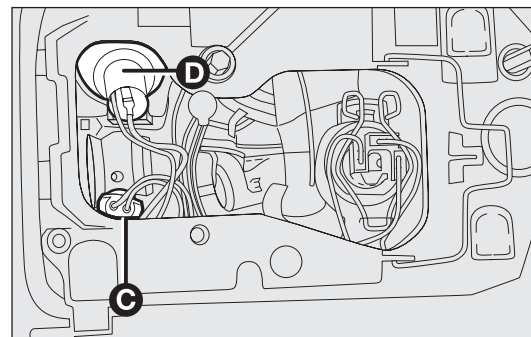

fig. 142
- ☐ turn the bulb-holder C-fig. 142 and remove it (it is pressure-fit);
- ☐ turn the bulb-holder D-fig. 142 and remove it (it is pressure-fit);